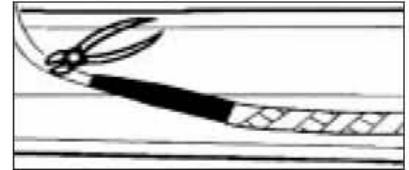

Fig. 3
4. Connect the new heater to the hinge pin leads as shown in Fig. 3.
3. Cut the defective heater approximately 8 inches from its end, and remove it from the frame (Fig. 3).